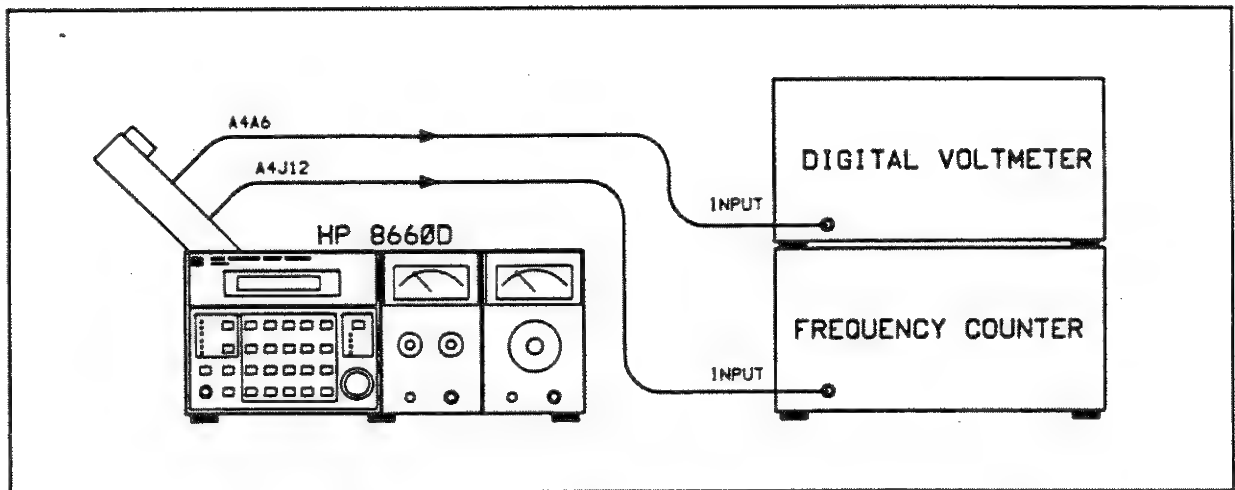

Figure 5-13. Voltage Controlled Oscillator Adjustments Test Setup
4. Voltage Controlled Oscillator Adjustment (see Figure 5-13).